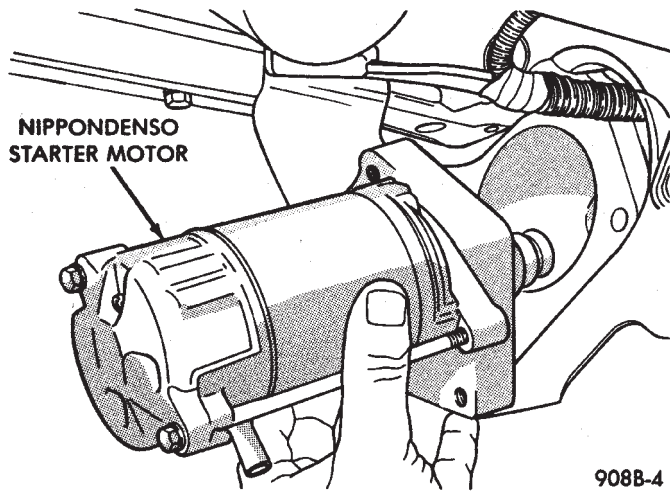

Fig. 9 Remove/Install Starter—Nippondenso—Typical
(4) Remove starter from vehicle (Bosch, Fig. 8) (Nippondenso, Fig. 9).